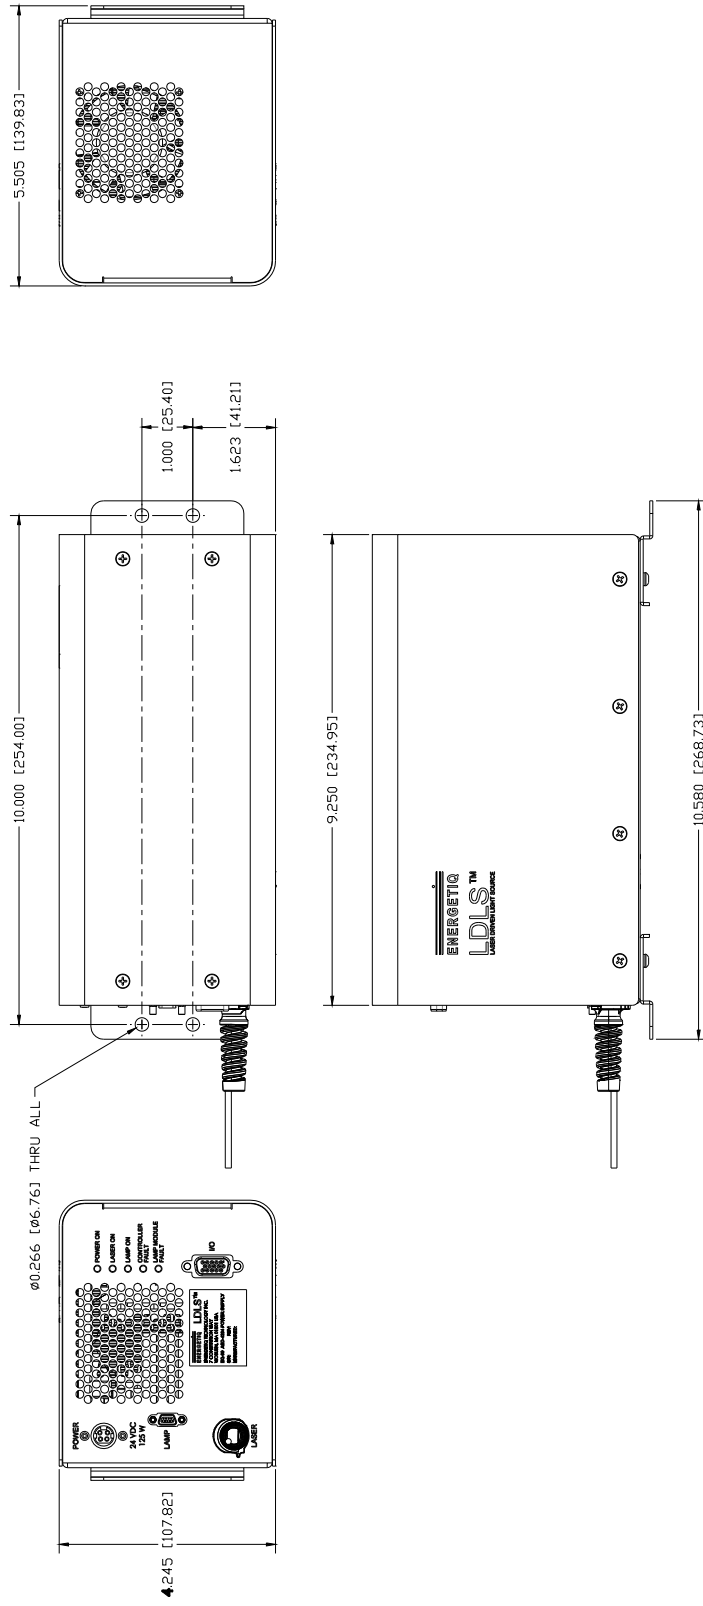

Figure 6: Power Supply Controller mechanical layout
1. Mount the Power Supply Controller unit rigidly to either an optical breadboard plate or another suitable mounting structure using the supplied tabs on the bottom of the chassis. The holes are sized to accept standard 1/4-20 optical bench hardware, and spaced to be compatible with a standard 1" grid mounting hole pattern. See Figure 6 for dimensional and mounting details.